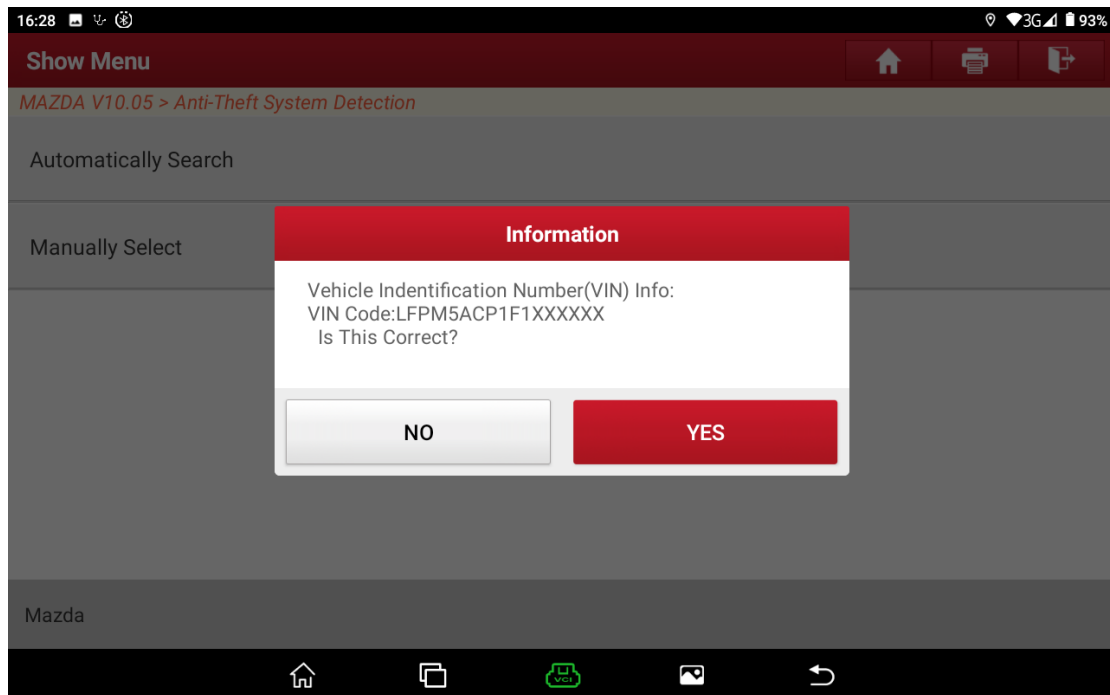

Figure A5
3. Confirm whether the VIN is correct. Choose [No] to manually input the correct VIN or choose [Yes] to access the next step. See Figure A5.